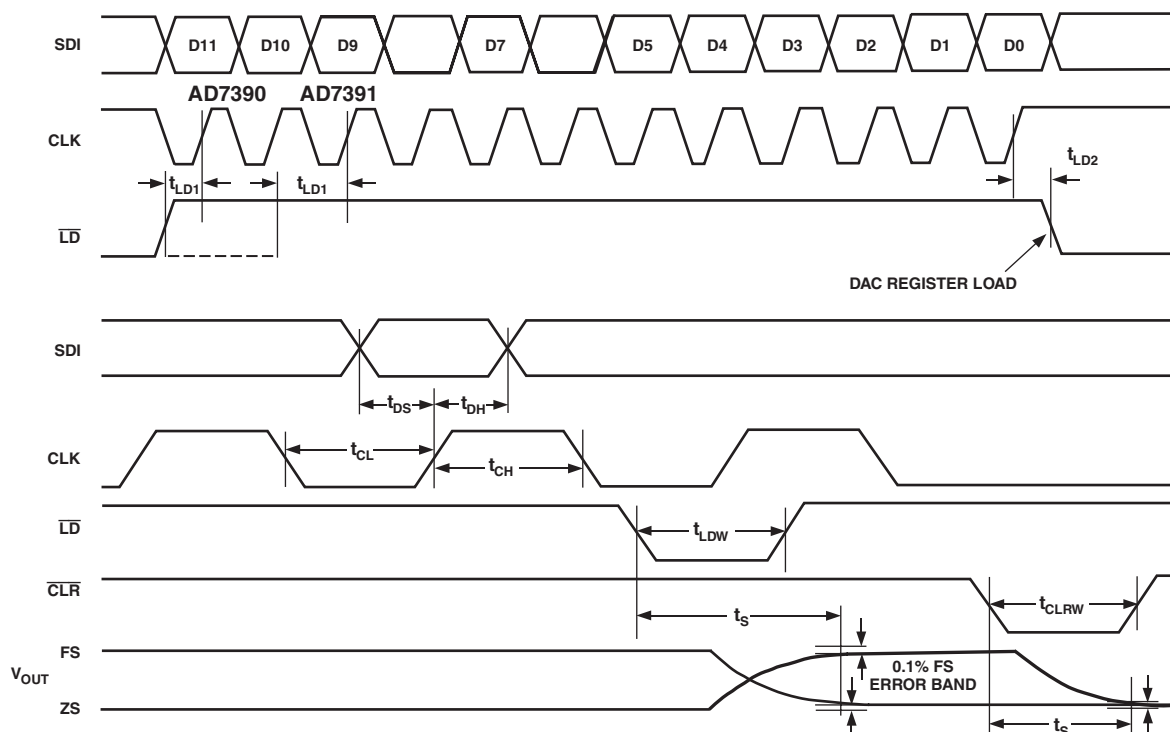

Figure 4. Timing Diagram
The AD7390/AD7391 have a double-buffered serial data input. The serial-input register is separate from the DAC register, which allows preloading of a new data value into the serial register without disturbing the present DAC values. A functional block diagram of the digital section is shown in Figure 4, while Table I contains the truth table for the control logic inputs. Three pins control the serial data input. Data at the Serial Data Input (SDI) is clocked into the shift register on the rising edge of CLK. Data is entered in MSB-first format. Twelve clock pulses are required to load the 12-bit AD7390 DAC value. If additional bits are clocked into the shift register, for example when a microcontroller sends two 8-bit bytes, the MSBs are ignored (Figure 9). The CLK pin is only enabled when Load (LD) is high. The lower resolution 10-bit AD7391 contains a 10-bit shift register. The AD7391 is also loaded MSB first with 10 bits of data. Again if additional bits are clocked into the shift register, only the last 10 bits clocked in are used.